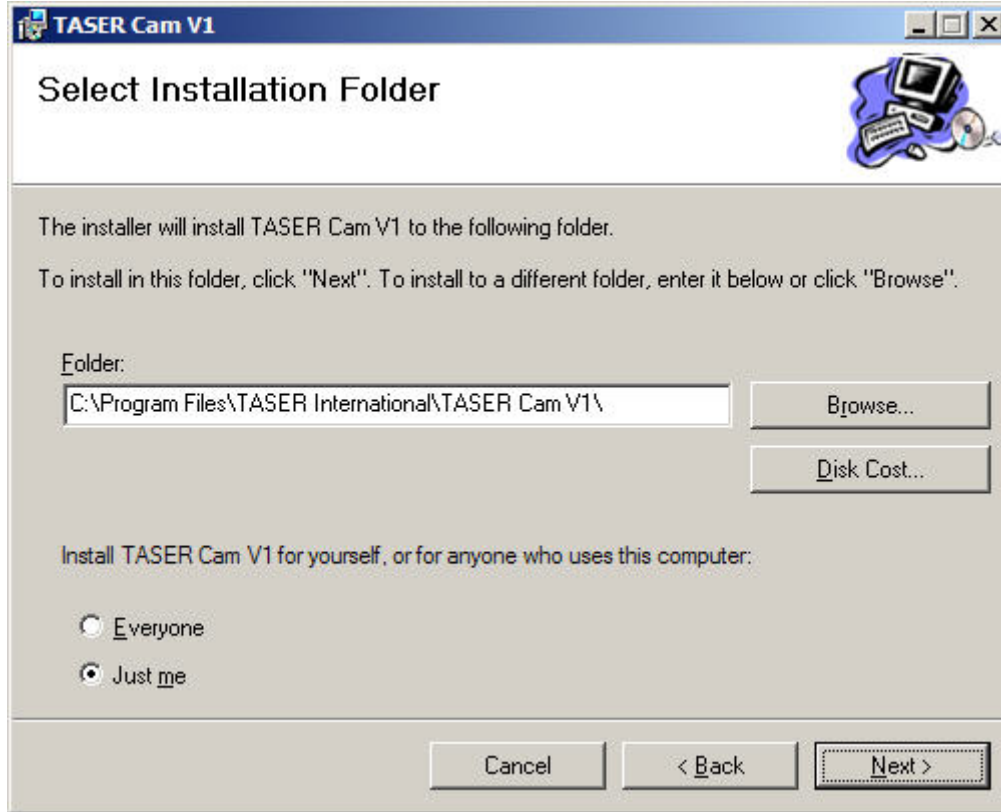

Figure 2
5. Designate the folder where the software will be installed. The wizard will designate a default location (recommended) or you may choose a different location (Figure 2).